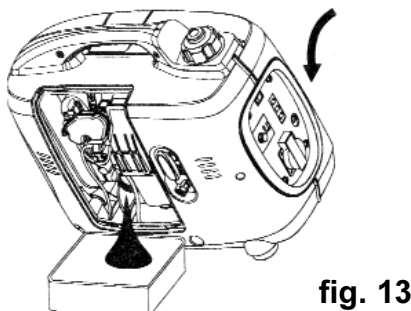

fig. 13
4.1.3 Thoroughly drain the used oil into a container. Refer to fig. 13.